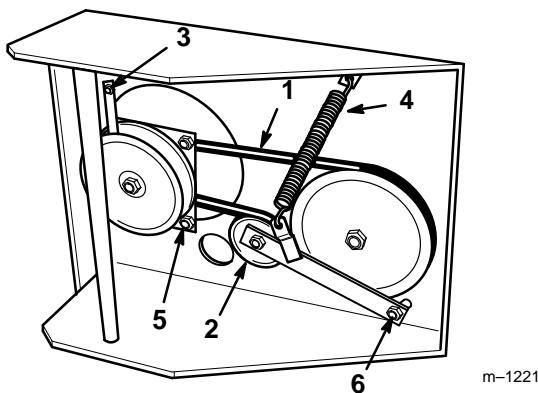

Figure 32
4. Remove left front engine mounting bolt securing clutch retainer to frame (Fig. 32). Unhook retainer from clutch and remove retainer.
5. Unhook tension spring from side of frame (Fig. 32).
8. Torque pivot bolt to 35-40 ft. lb. (47-54 N.m). Install tension spring between idler arm and frame bracket (Fig. 32).